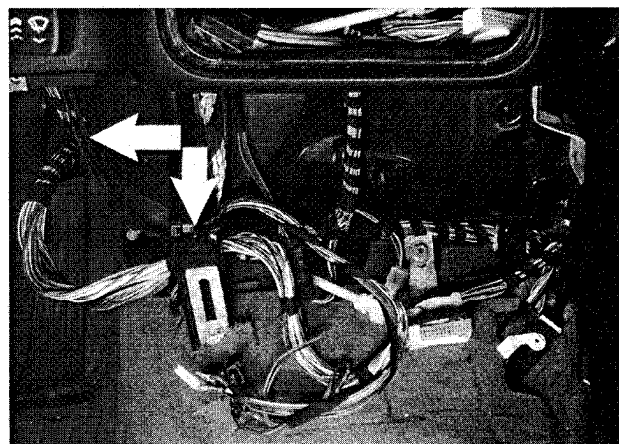

Fig. 17. Wire harness retaining clips and wire ties at heater box cover (arrows).
6. Working at front of driveshaft tunnel, unclip wire harnesses and move to one side in front of heater box. See Fig. 17.